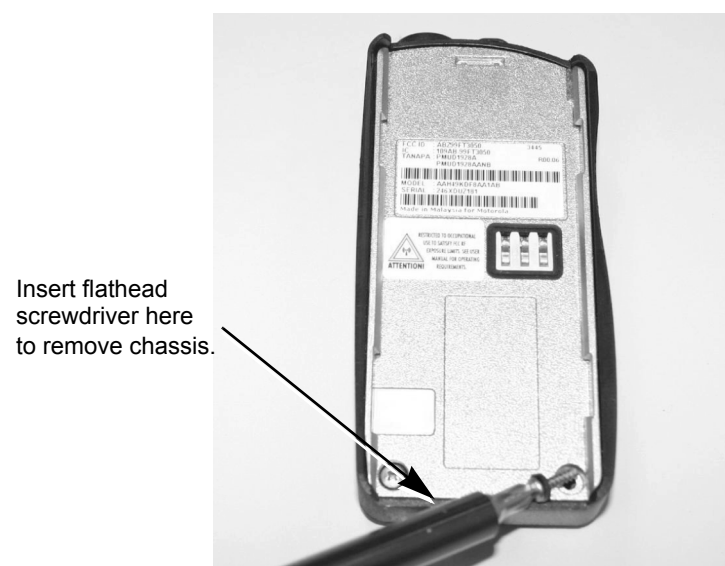

Figure 2-2.
5. Remove the two screws at the back of the rear chassis (See Figure 2-2).
6. Insert a small flathead screwdriver at the bottom of the radio, between the chassis and housing (location marked in Figure 2-2), and lift the chassis gently. Be careful not to damage the housing or the O-ring underneath.